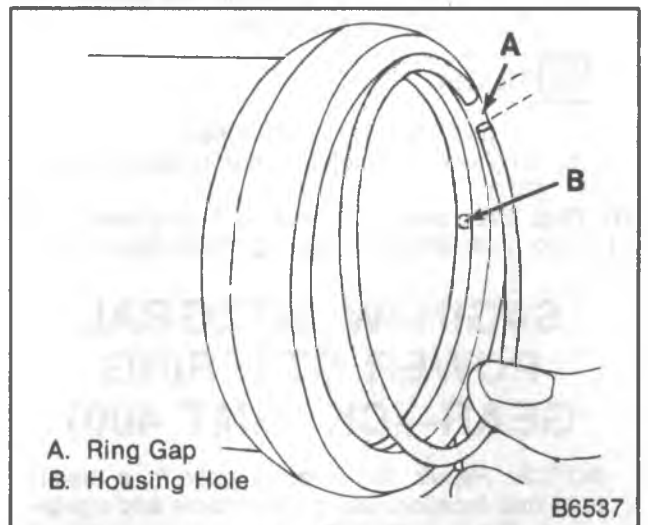

Figure 22—Installing the Retaining Ring
- Nut (227) to 27 N·m (20 ft.lbs.).
5. Re-check the preload after tightening the nut (227).
10. Plug (215), seal (216), ring (217), and seal (218).
11. Plug (219) and retaining ring (220) (figure 22).